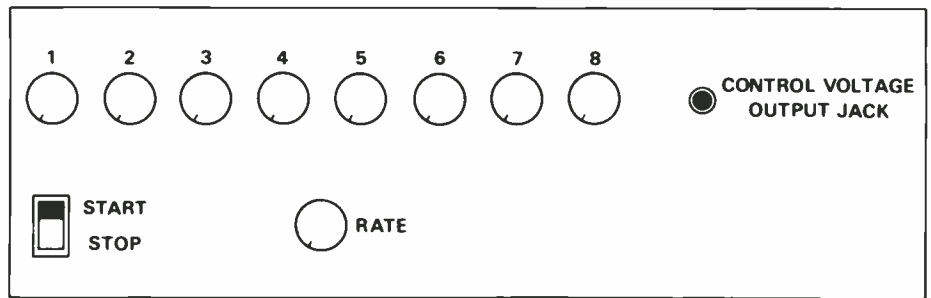

Figure 1
A basic eight-stage sequencer produces a repeating series of eight control voltages in sequence (see Figure 1). Each knob dials in a particular control voltage; this control voltage appears at the control voltage (CV) output jack. With the start/stop switch toggled to *start*, the sequence begins by having the voltage selected by knob 1 appear at the CV out jack. After a period of time (set by the rate